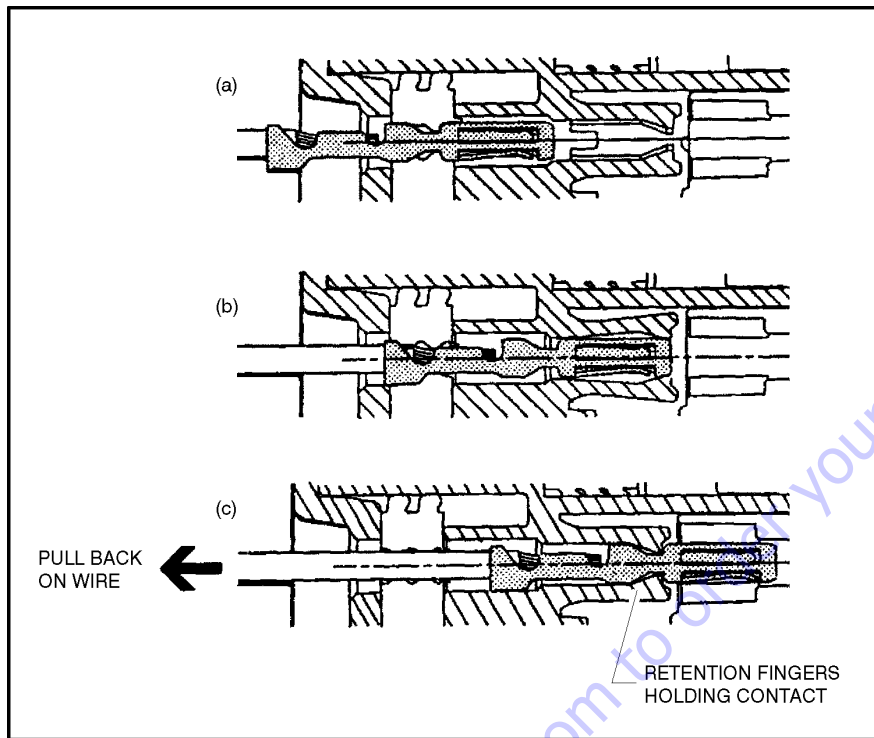

Figure 7-9. Connector Assembly Figure 2
2. Pull back on the contact wire with a force of 1 or 2 lbs. to be sure the retention fingers are holding the contact (See Figure 7-9.).
1. To insert a contact, push it straight into the appropriate circuit cavity as far as it will go (See Figure 7-9.).